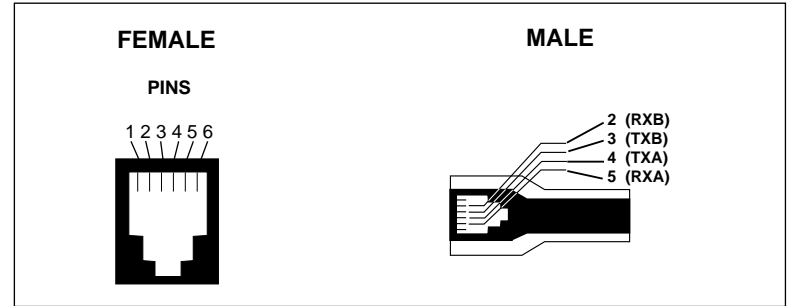
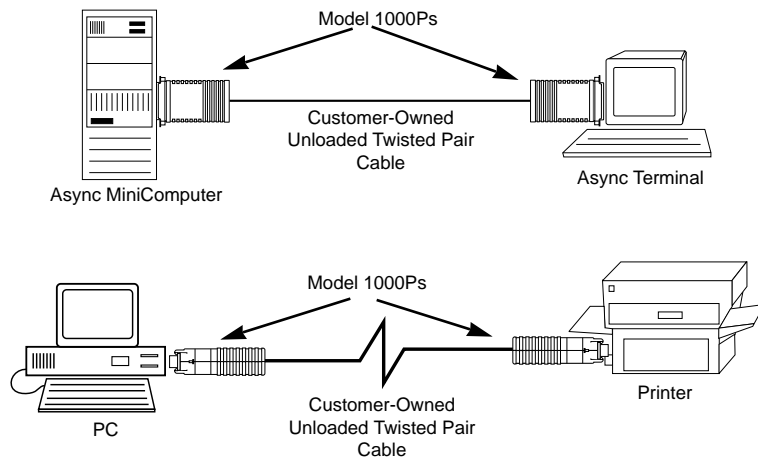

Figure 3. Pin Assignments for RJ11 Connectors
Figure 6. Typical Short Range Modem Applications
1. Connect the twisted pair cable (customer-supplied) to the 4-screw terminal block (Model 1000PM or 1000PF), RJ11 jack (Model 1000PMRJ11 or 1000PFRJ11), or RJ45 jack (Model 1000PMRJ45 or 1000PFRJ45). Refer to Figure 3 for the associated pin assignments. End-to-End connections should be matched as shown in Figure 6.
For examples of typical applications of the Model 1000P with DTE or DCE devices, refer to Figure 6, below.